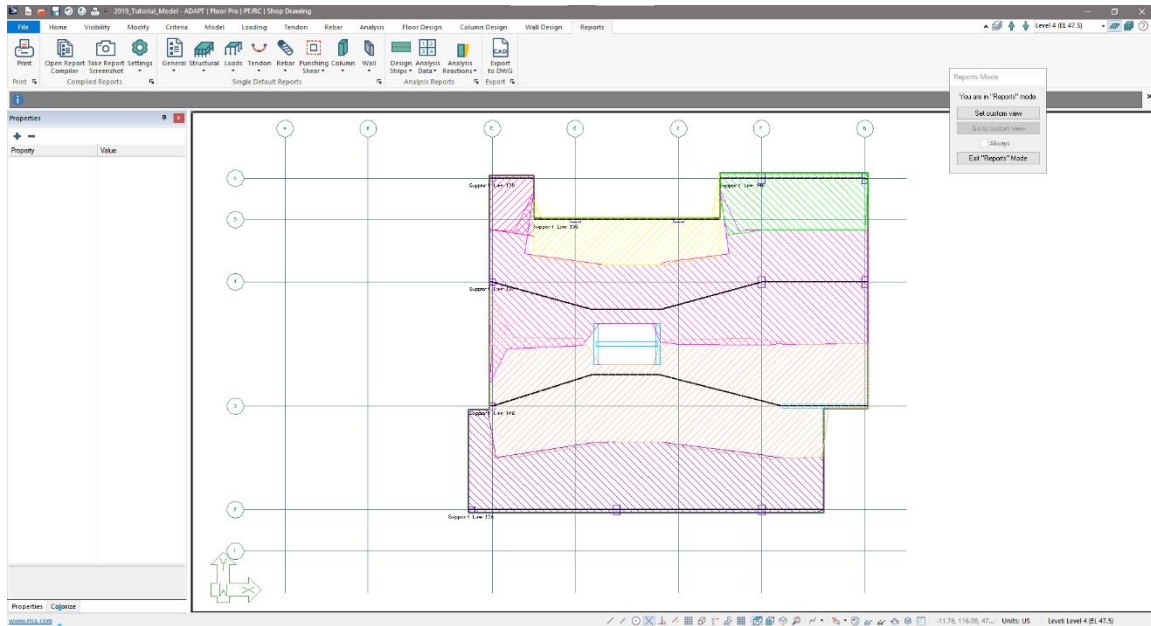

Figure 10-10
- Click *OK* on the next window that opens to view the report. The user's screen should appear similar to **FIGURE 10-10**.